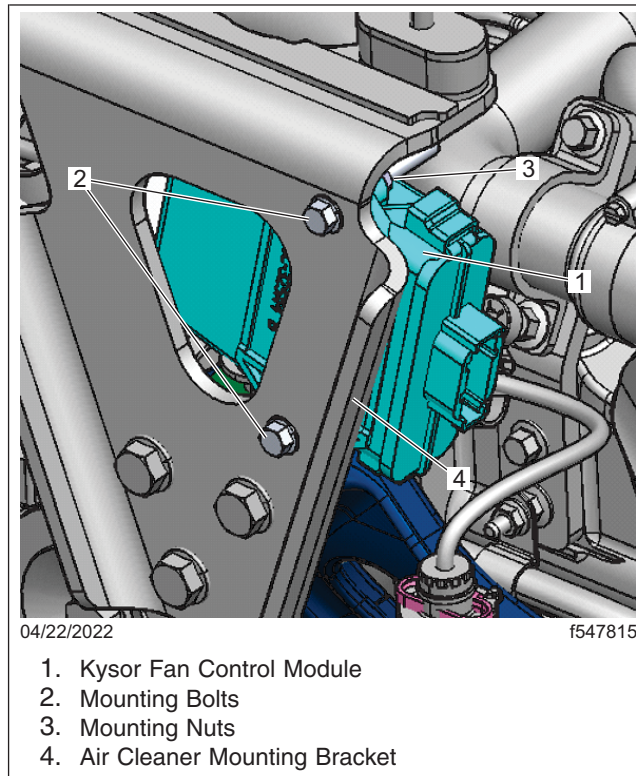

Fig. 7, Kysor Fan Control Module Removal
5. Remove the two fasteners that attach the Kysor fan control module to the air cleaner mounting bracket, then remove the fan control module from the vehicle, and discard it. See **Fig. 7**.